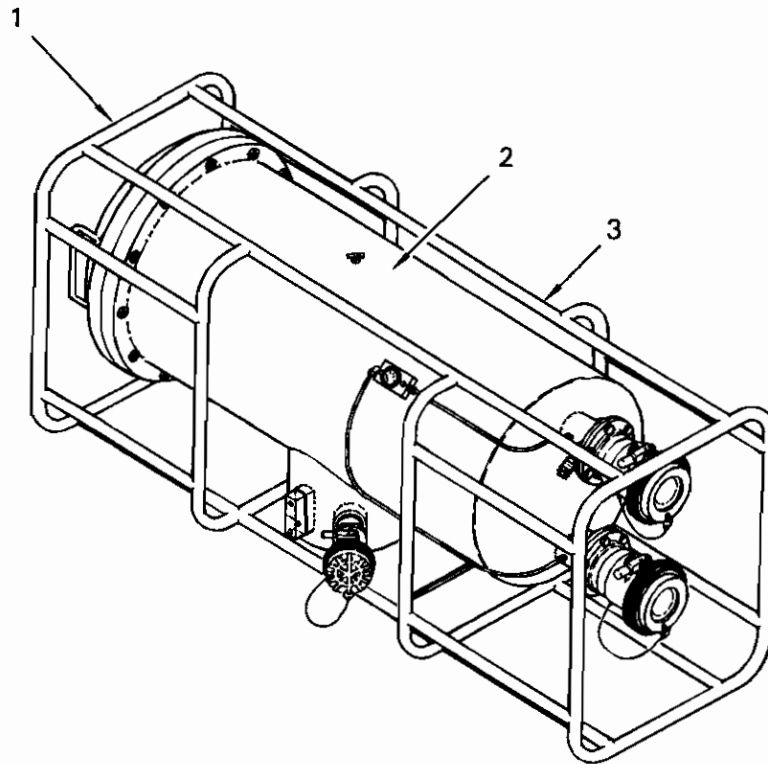

Figure 1-4. Liquid Fuel Filter-Separator
The liquid fuel filter-separator (1), figure 1-4, is a filter (2) vessel with an integral frame (3) and is designed to house three coalescer elements and a separator element. For more detailed information refer to TM 10-4330-237-13&P.